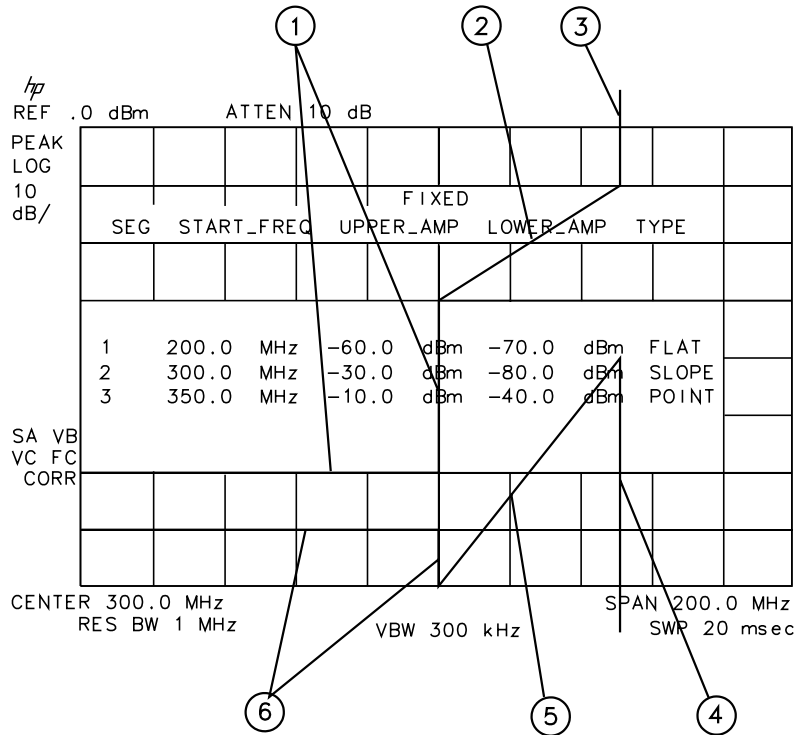

Figure 45 Segment Types
- 1 Flat draws a zero-slope line between the coordinate point of the current segment and the coordinate point of the next segment, producing limit-line values equal in amplitude for all frequencies or times between the two points. If the amplitude values of the two segments differ, the limit-line will “step” to the value of the second segment. See Figure 45 on page 105.
Figure 45 demonstrates the different segment types.